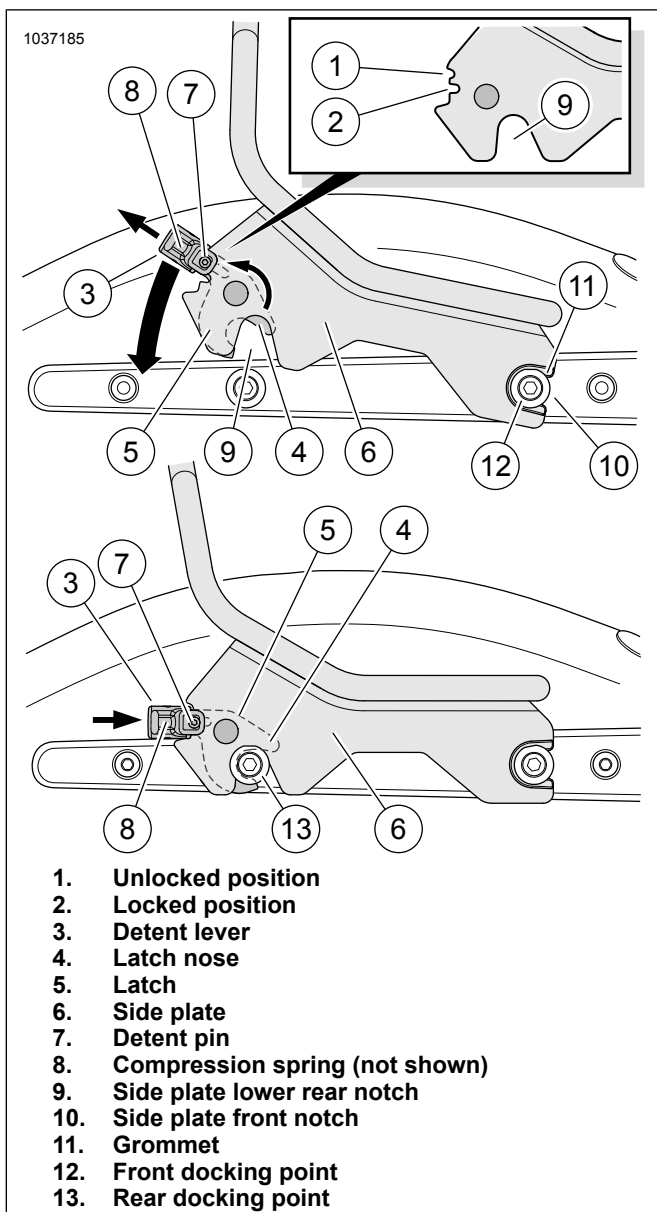
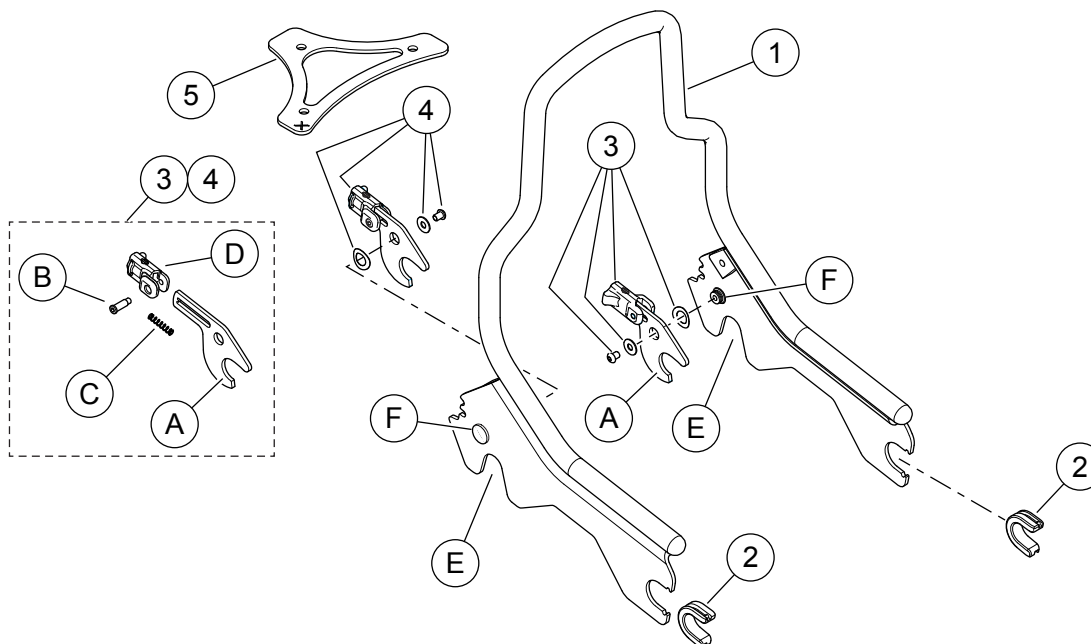

Figure 1. Detachable Backrest Installation
Figure 3. Service Parts, Detachable Backrest Kits
Refer to Figure 3 and Table 1.
1. See Figure 3. Position the right (4) and left (3) latch levers in the unlocked position as shown in Figure 1, upper view (Item 1).
- a. Pull both detent levers (3) rearward against the compression spring (8, not visible).
- b. Rotate the levers upward so each latch nose (4) is positioned inside the lower rear notch (9) of the side plate (6).
- c. Each detent pin (7) is now located in the uppermost (unlocked position) notch.
- d. The compression spring (8) inside the detent lever holds the latch (5) in the unlocked position.
2. Push the sideplate front notches (10), with grommets (11) in place, firmly and evenly into the **front** docking points (12).
3. See Figure 1, lower view. Swing the rear of the backrest side plates (6) downward toward the **rear** docking points (13).
- a. As the side plates (6) move down, the latches make contact with the plastic surface of the rear docking points.
4. As the docking points contact the latches, each latch nose (4) is forced upward.
- a. This causes the pin (7) to move down into the lowermost (2-locked) position on the side plate.
- b. The springs (8) lock each latch firmly in place around the rear docking points.
5. Make sure that detent pins (7) are fully seated against the side plates (6).
- a. If not fully seated, push detent lever (3) forward.
- a. As the levers rotate upward, the latch noses (4) are forced against the rear docking points (Figure 1, Item 13).
- b. This raises the rear of the backrest side plates (6) out of the docking points.
3. Release the detent levers. The springs (8) will move each lever back into the unlocked position (1).